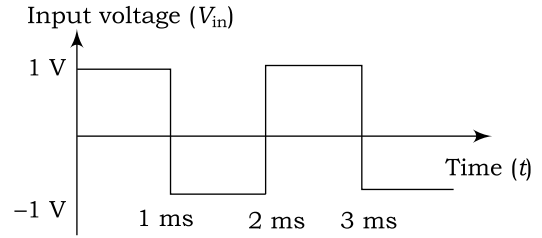

Fig. 7.109
31. When a square-wave input voltage as shown in Fig. 7.109 is applied to the differentiation circuit, what will be the output voltage waveform?